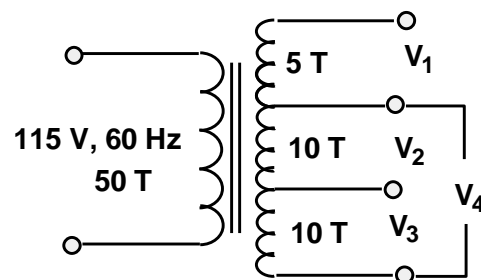

Fig. 2.1-19
4. Determine each unknown voltage indicated in Fig. 2.1-19.